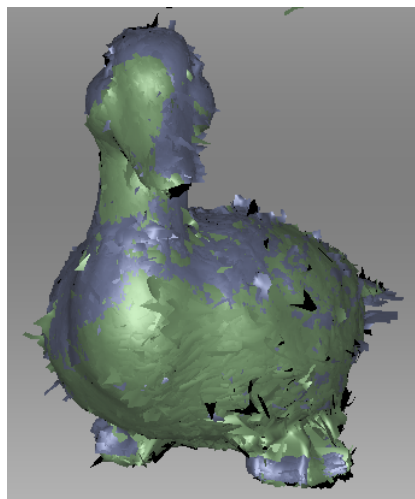

Figure 67: “Drag” alignment result
3. To confirm the alignment, release the mouse button(s) and the `Shift` key, then click *Apply*. Note carefully that any scans you are registering won't automatically move to the registered set ● (see Figure 67). You can do so manually as the *Changing Scan Status* describes.